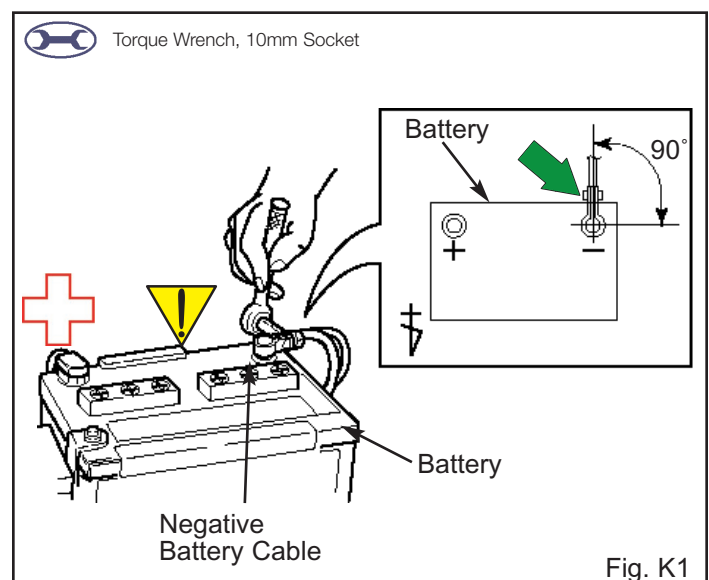

Fig. K1
3. Reconnect the vehicle's negative battery cable. (Fig. K1)